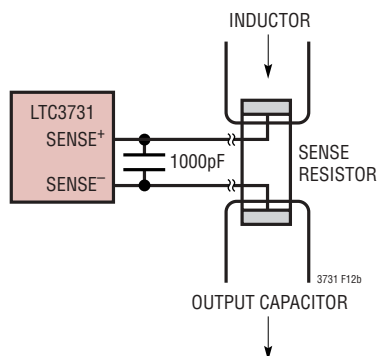

Figure 12. Kelvin Sensing R_{SENSE}
3) Are the $SENSE^-$ and $SENSE^+$ printed circuit traces for each channel routed together with minimum PC trace spacing? The filter capacitors between $SENSE^+$ and $SENSE^-$ for each channel should be as close as possible to the pins of the IC. Connect the $SENSE^-$ and $SENSE^+$ pins to the pads of the sense resistor as illustrated in Figure 12.